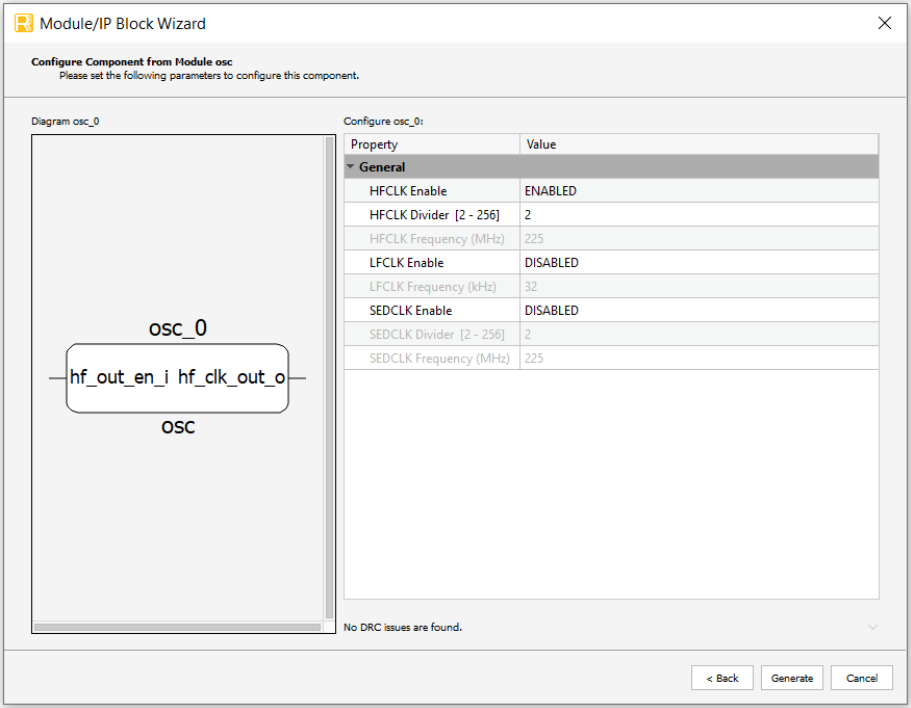

Figure 3.2. Configure User Interface of OSC Module
3. In the module's dialog box of the **Module/IP Block Wizard** window, customize the selected OSC Module using drop-down menus and check boxes. As a sample configuration, see Figure 3.2. For configuration options, see the Attribute Summary section.
IP Generation, Synthesis, and Validation	Updated Figure 3.2. Configure User Interface of OSC Module.